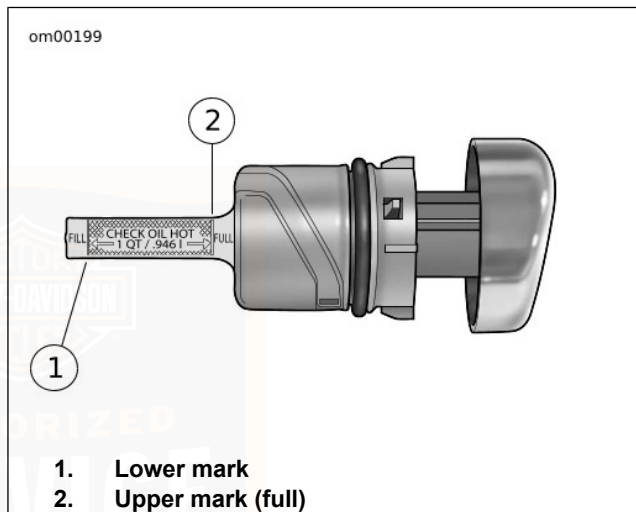

Figure 38. Filler Cap/Dipstick: Sportster Models
3. Remove oil filler cap again and check oil level on dipstick. See Figure 38. Dipstick has two marks. If oil level is at or below lower mark, add only enough oil to bring the level to a point between the two arrows on the dipstick. Replace filler cap.
- Remove filler cap again and check warm oil level on dipstick. See Figure 38. Dipstick has two marks. If oil level in tank is at or below lower mark, add one quart (0.946 liter) of Harley-Davidson oil to tank. Replace filler cap.